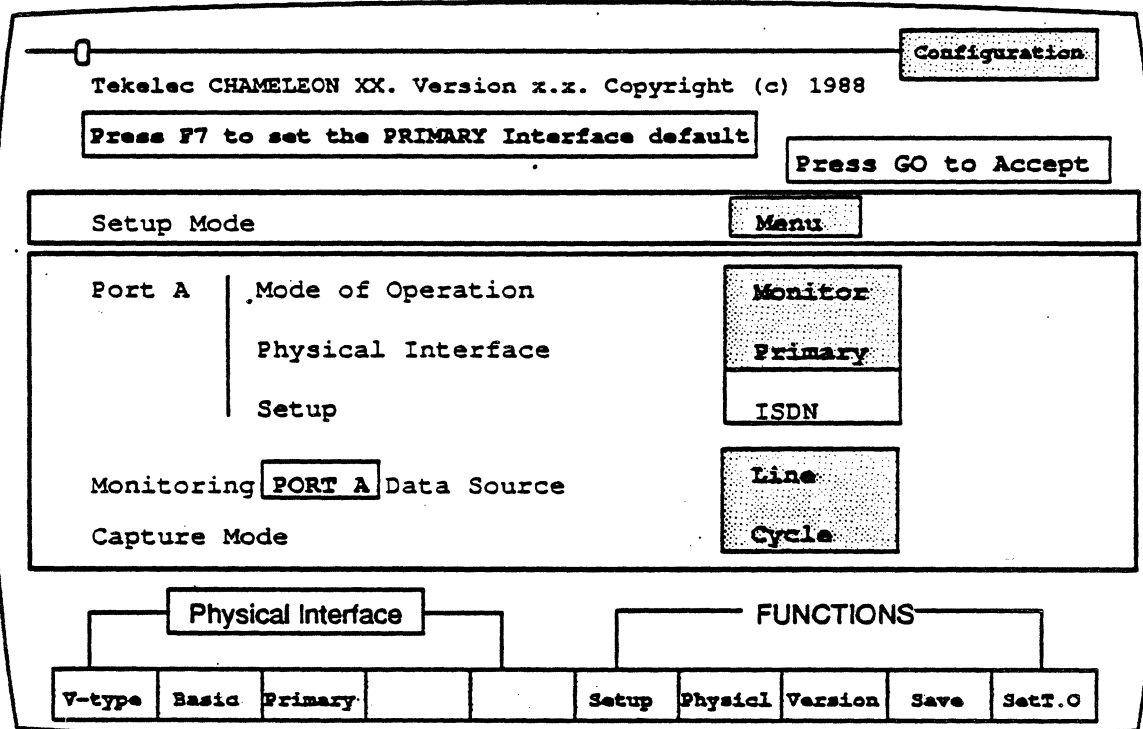

Figure 11.3: Main Configuration Menu (Chameleon 32)
2. Power up your Chameleon and display the main Configuration menu (Figure 11.3). Note that the display shown is for the Chameleon 32. The display for a Chameleon 20I will be similar with the exception of the Physical Interface options.